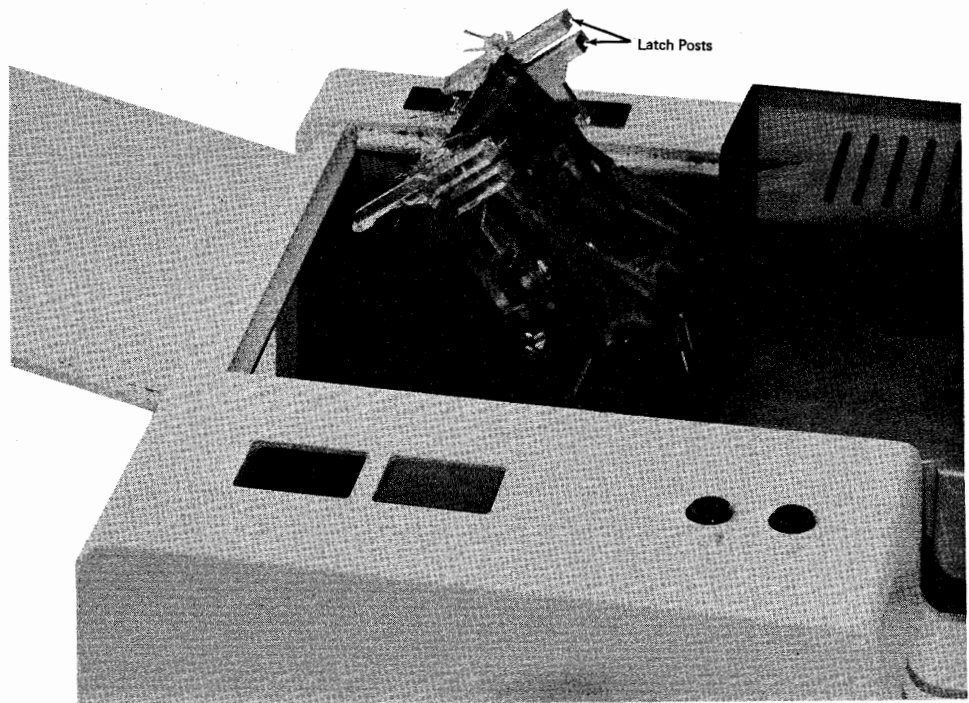

Figure 8-2. Removing a Card Jam
- 3 Open the top cover as shown in Figure 8-2.
- 4** Rotate the read head card cover open (up and to the right) by squeezing the top of the latch posts together, as shown in Figure 8-2.